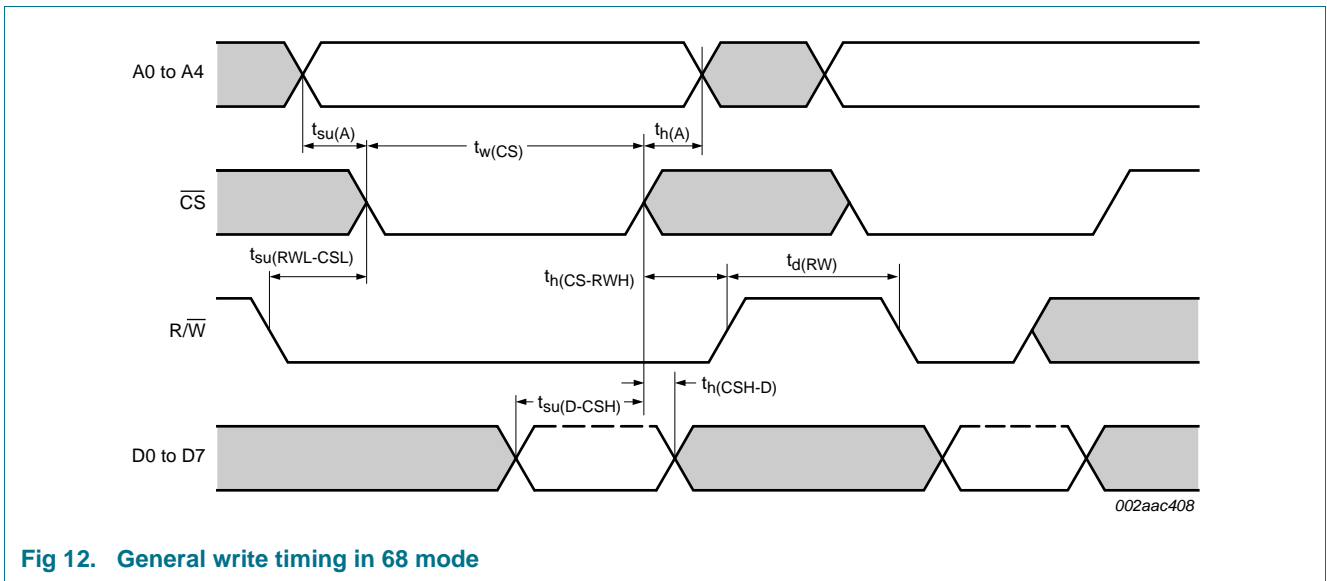

Fig 12. General write timing in 68 mode
- (1) CS timing during a write cycle. See Figure 12.